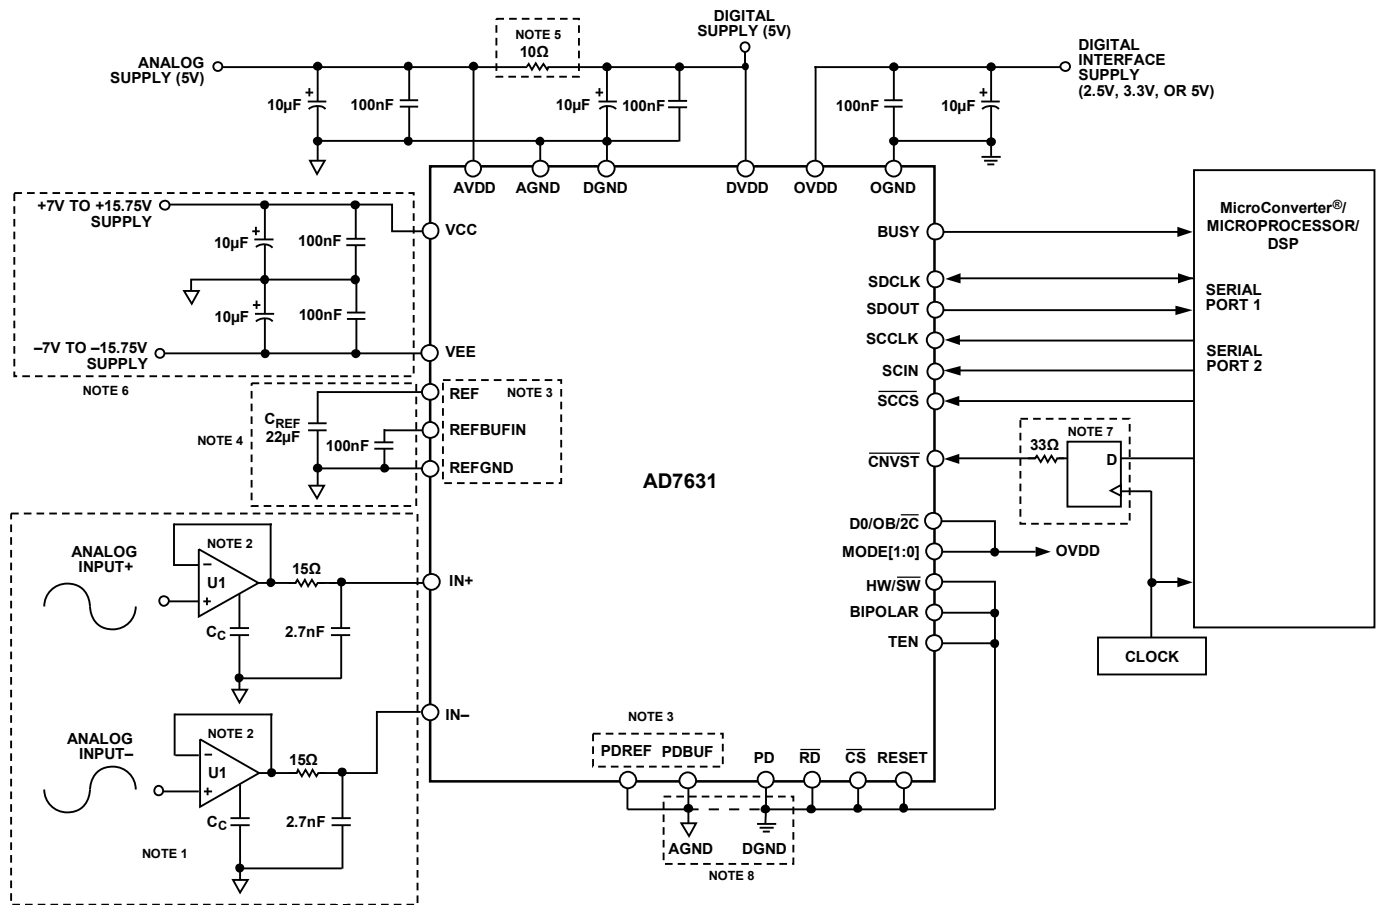
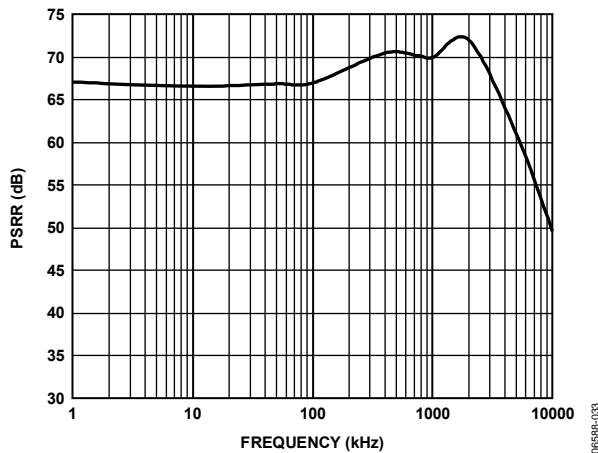

Figure 27. Typical Connection Diagram Shown with Serial Interface and Serial Programmable Port
Figure 33. AVDD PSRR vs. Frequency
Figure 27 shows a typical connection diagram for the AD7631 using the internal reference, serial data interface, and serial configuration port. Different circuitry from that shown in Figure 27 is optional and is discussed in the following sections.
Because the input impedance of the AD7631 is very high, it can be directly driven by a low impedance source without gain error. To further improve the noise filtering achieved by the AD7631 analog input circuit, an external, one-pole RC filter between the amplifier's outputs and the ADC analog inputs can be used, as shown in Figure 27. However, large source impedances significantly affect the ac performance, especially the THD. The maximum source impedance depends on the
- The noise generated by the driver amplifier needs to be kept as low as possible to preserve the SNR and transition noise performance of the AD7631. The noise coming from the driver is filtered by the external, 1-pole, low-pass filter, as shown in Figure 27. The SNR degradation due to the amplifier is
The AVDD and DVDD supply the AD7631 analog and digital cores, respectively. Sufficient decoupling of these supplies is required consisting of at least a 10 μF capacitor and a 100 nF capacitor on each supply. The 100 nF capacitors should be placed as close as possible to the AD7631. To reduce the number of supplies needed, the DVDD can be supplied through a simple RC filter from the analog supply, as shown in Figure 27.
The AD7631 requires sequencing of the AVDD and DVDD supplies. AVDD should come up prior to or simultaneously with DVDD. This can be achieved using the configuration in Figure 27 or sequencing the supplies in that manner. The other supplies can be sequenced as desired as long as absolute maximum ratings are observed. The AD7631 is very insensitive to power supply variations on AVDD over a wide frequency range, as shown in Figure 33.
For applications where SNR is critical, the $\overline{\text{CNVST}}$ signal should have very low jitter. This can be achieved by using a dedicated oscillator for $\overline{\text{CNVST}}$ generation, or by clocking $\overline{\text{CNVST}}$ with a high frequency, low jitter clock, as shown in Figure 27.